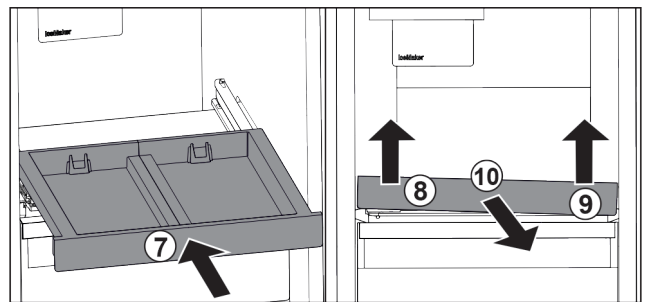

Fig. 102
- ▶ Slide in the pull-out board. Fig. 102 (7)
- ▶ Lift the pull-out board on the front left. Fig. 102 (8)
- ▶ Lift the pull-out board on the front right. Fig. 102 (9)
- ▶ Take out the pull-out board to the front. Fig. 102 (10)